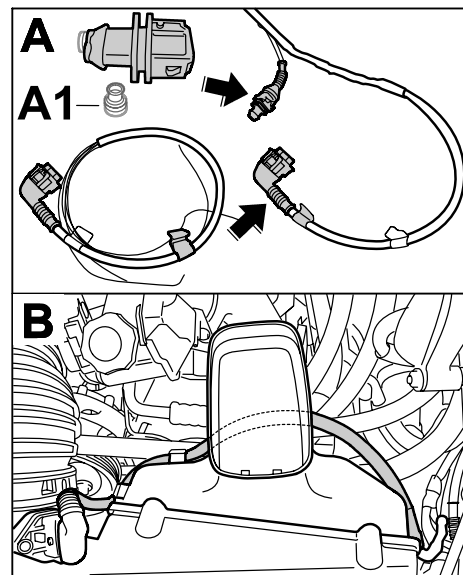

Figure 19
- 5.6 Check that the 2-pin connector housing is sealed with two plugs (⇒ *Figure 19-A1-*). If not: press in plugs on the back of the connector housing.
- 5.7 Route electric line in front of the carbon air cleaner housing to the 5-pin hot-film mass air flow meter (MAF) connection and clip it into the cable holder on the air cleaner housing. Connect 5-pin plug connection to the MAF ⇒ *Figure 19 -bottom-*.